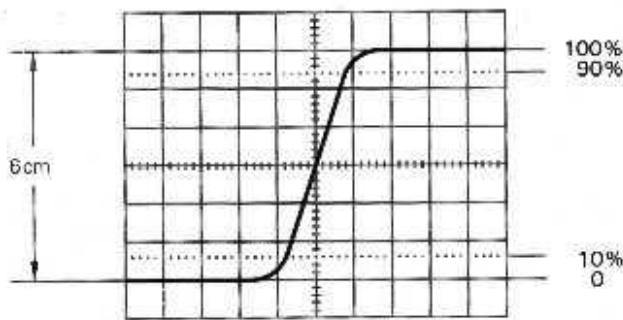

Fig. 18
This time is referred to as the rise time (or fall time) t_{tot} and is normally measured between 10% and 90% of the pulse height. See Fig. 18 below. The 10% to 90% limit is used to ensure that transients, ramp-offs and bandwidth limitations do not influence the measuring accuracy.
The HM 605 CRT's internal graticule is especially calibrated and divided for rise time measurements. (See Fig. 18 below).
1. Adjust TIMEBASE controls until pulse is displayed as shown in Fig. 18 above. The X POS, X MAGN x10, and the sweep delay facility may have to be used.
3. Measure distance (time t_{tot}) between the two points at which trace crosses the dotted lines 2.4 cm above and below the centre line (See Fig. 18).